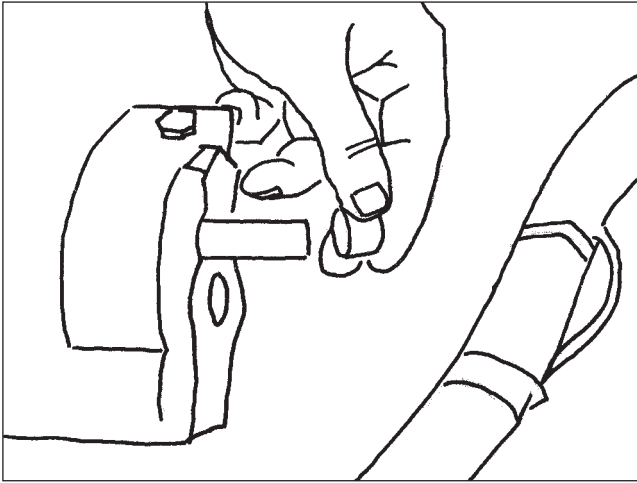

Figure 38
3. Remove the plastic caps from both plunger holes. Insert the 1/4" punch into the hole. Using the hammer, tap the punch until the plunger "bottoms" in the plunger bore. Repeat this procedure for both plungers. Replace the plastic caps after setting the plungers to the maximum depth.(Figure 38).